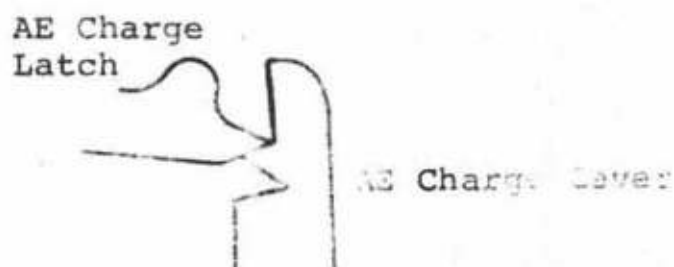

Fig. 2-11
2. Charge the mechanism so the AE charge latch rest on the first (upper) step of the AE charge lever. (Fig. 2-11)